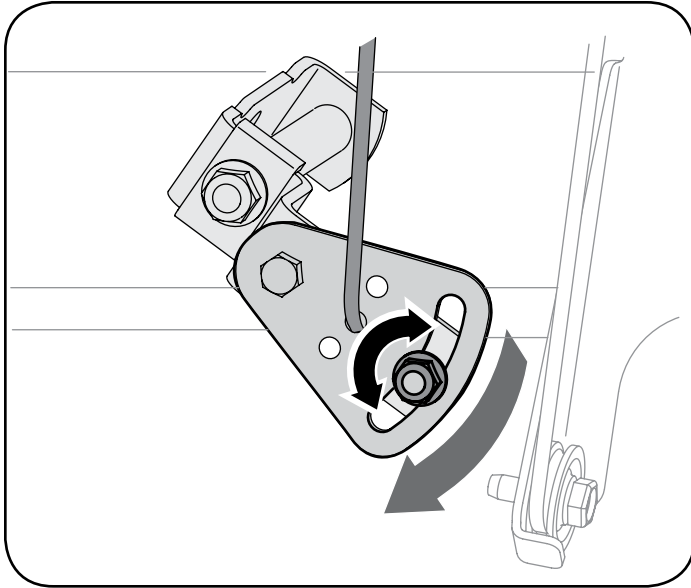

Figure 20
2. Loosen the hex nut on the shift cable index bracket. See Figure 20.